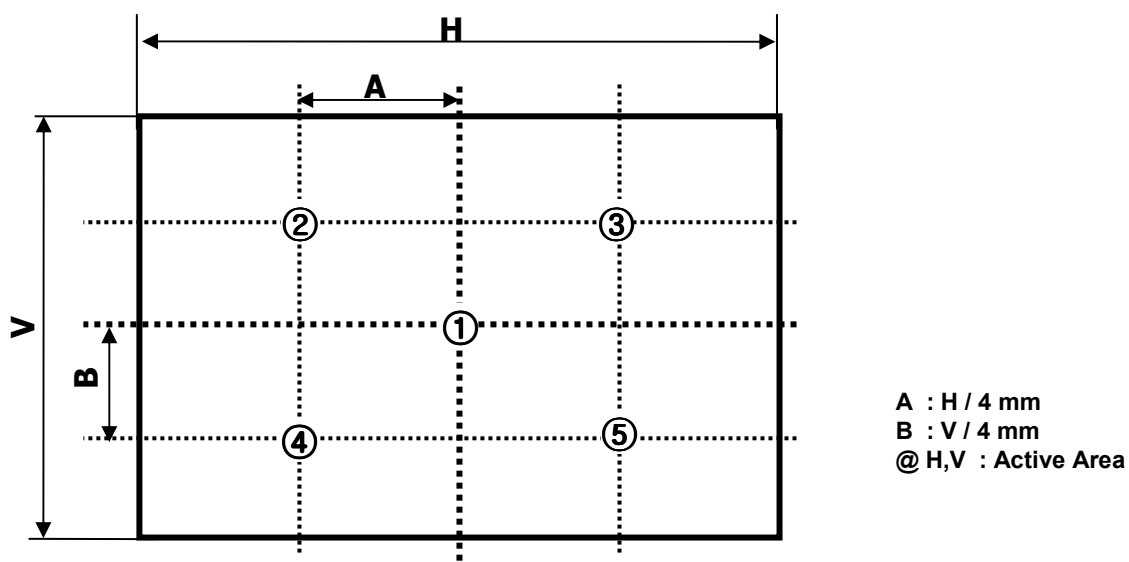

FIG. 2 5 Points for Luminance Measure
n = the Position number(1, 2, 3, 4, 5). For more information, see FIG 2.
2. Surface luminance are determined after the unit has been 'ON' and 30min after lighting the backlight in a dark environment at $25 \pm 2^\circ\text{C}$. Surface luminance is the luminance value at center 1-point across the LCD surface 50cm from the surface with all pixels displaying white. For more information see the FIG. 2.
For more information, see the FIG. 2.